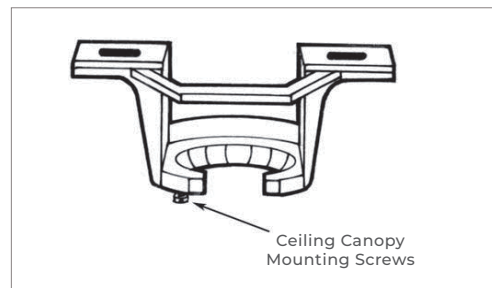

FIGURE 4
4) Loosen the two canopy mounting screws on the downside face of the mounting bracket. Back them out halfway. This will allow for easier installation of the ceiling canopy later (Fig 4).